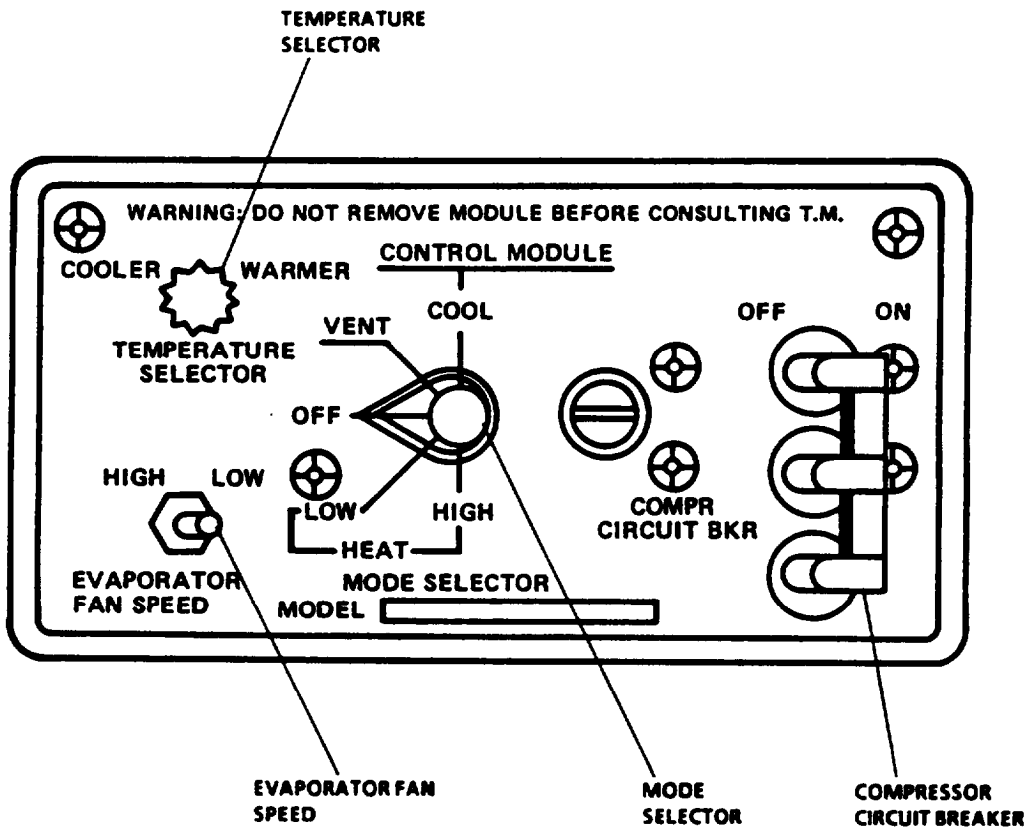

Figure 2-8. ECU Controls and Indicators
g. Environmental Control Unit Controls and Indicators. Figure 2-8 and Table 2-8 list the controls and indicators for the ECU system.